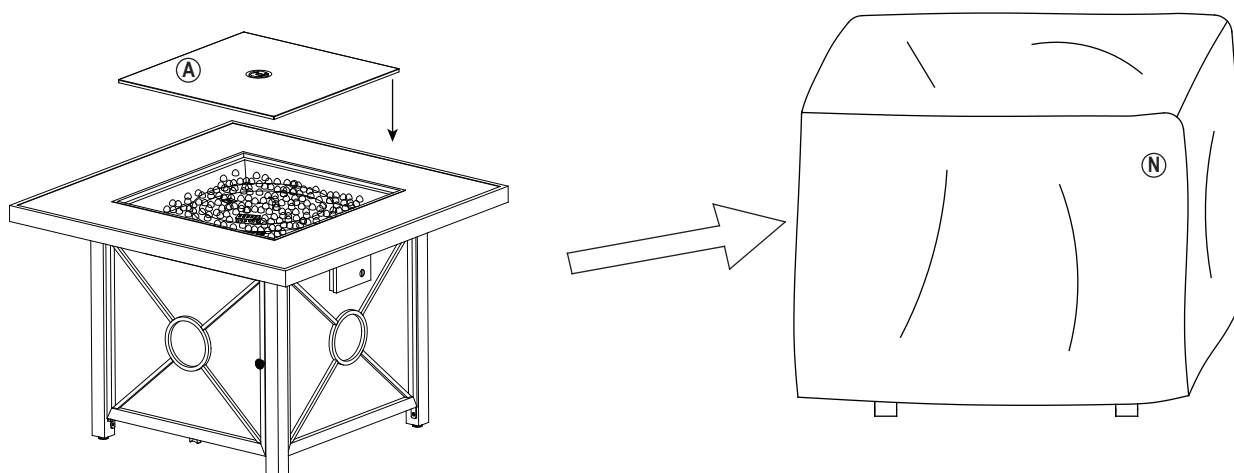

Figure 12
12. Place the lid (A) onto the fire bowl when not in use to protect it from the elements or when fire pit is cooled COMPLETELY after use. Cover the fire pit with weather cover (N) when not in use to protect it from the elements or when fire pit is cooled COMPLETELY after use, (see Figure 12).